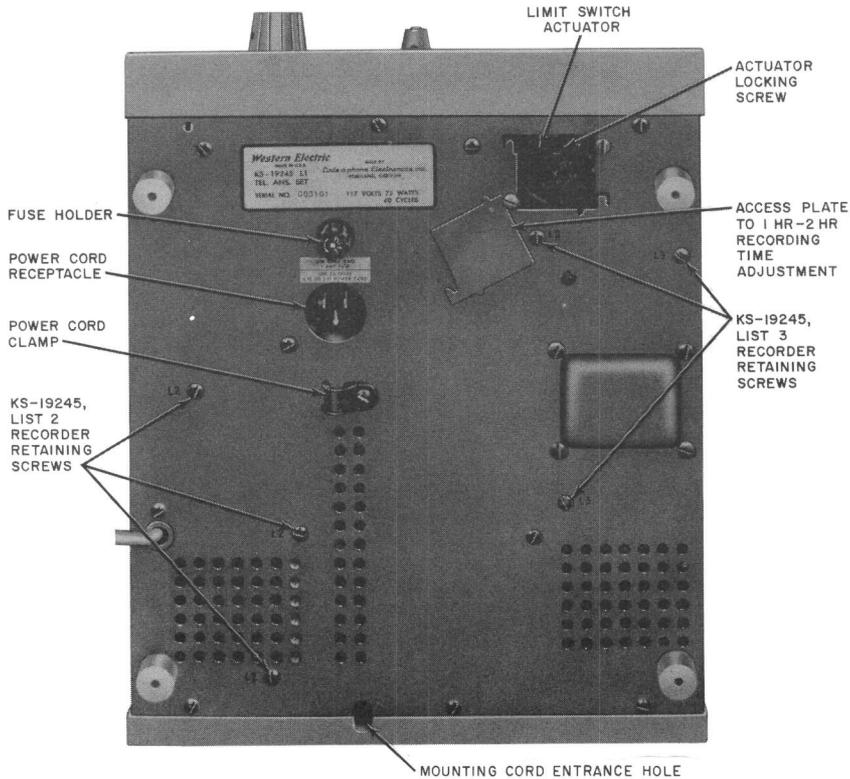

Fig. 21—KS-19245, List 1 (MD) Telephone Answering Set—Bottom View
- (1) The List 1 (MD) telephone answering set only, Fig. 21: